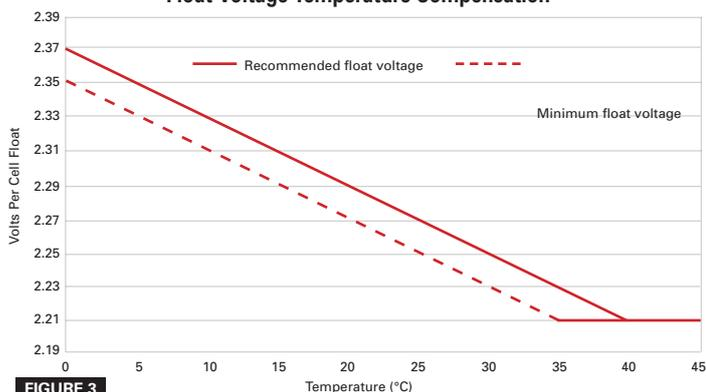

FIGURE 3
- (refer to **figure 3** for further details)